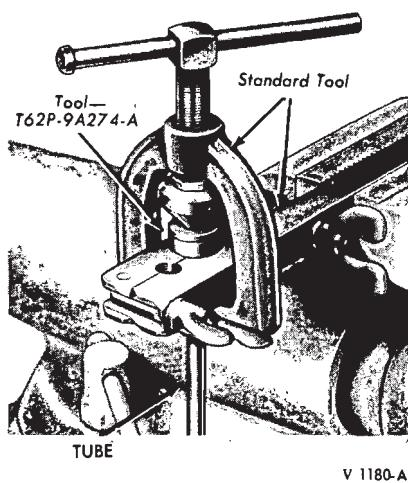

FIG. 13—Fuel Line Tube Die
2. Ream the inside edges of the cut tubing with the reamer blade on the tube cutter. Be sure metal chips are removed from inside the tube(s). Flare the ends of the cut tubing, as required, with a standard tube flaring kit and tool (Fig. 13).